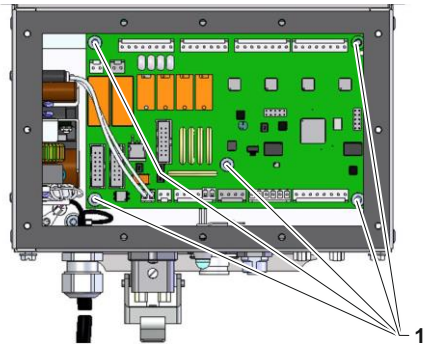

Fig. 3: Top view electrical part Vario-5
- Remove 5 screws (label 1 → Fig. 3) on the VFC-51 (A 11).
- Fix the replacement VFC-51 (A 11) in the electrical part with 5 screws (label 1 → Fig. 3).